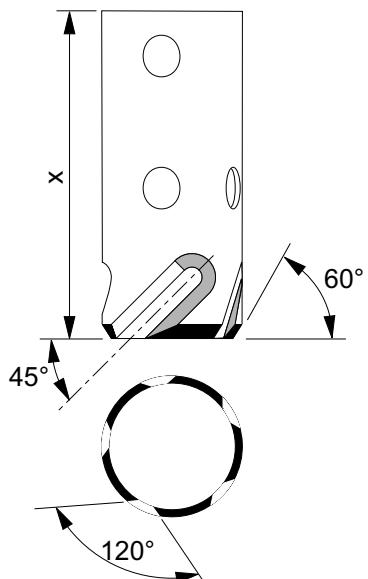

fig. 74 Vent blade grinding instructions
2. Grind the blade according to the data in fig. 74.